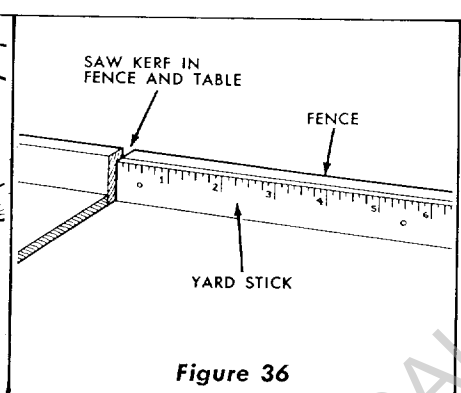

Figure 36
4. A scale may be attached to the fence to aid the operator when measuring lengths during cross-cut operations. This can be accomplished by tacking a yard stick to the fence as shown. See Figure 36.